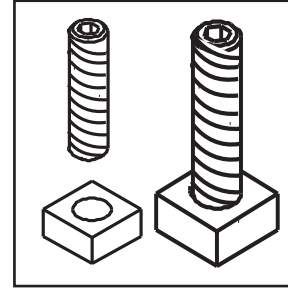

Figure 22.2
1. Replace front bricks that were removed in step 1 of Begin installing the ARS System on page 17 (**Figure 22.2 on page 22**).
3. Install ARS access cover inside of ARS Channel that is located inside the firebox (**Figure 22.2 on page 22**).
8. Thread Allen bolts through nuts until flush (**Figure 22.2**)